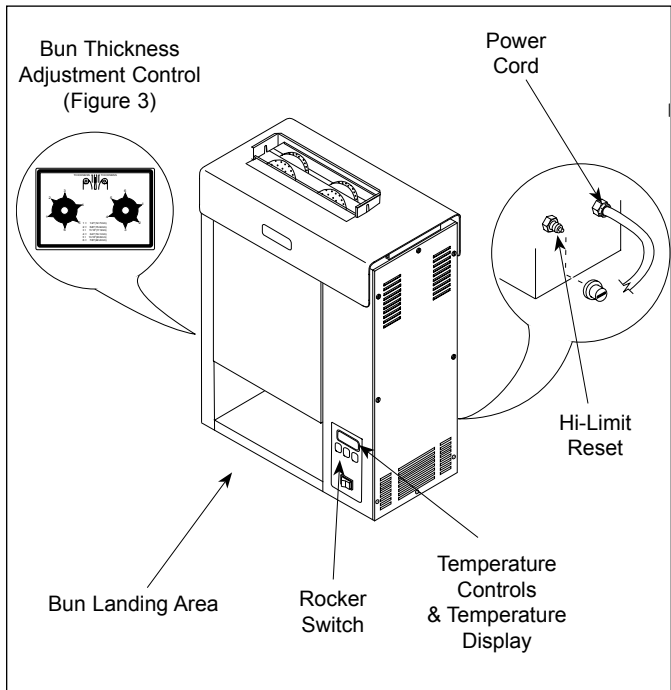

Figure 2. VCT-2000 Toaster
2. Turn the Rocker Switch on. (Figure 2). Allow the toaster to warm up for 30 minutes.
NOTE: The temperature display (Figure 2) will flash "LO" until the toaster reaches its preset operating temperature. When the toaster approaches the pre-set temperature of 600°F (315°C), "USE" appears in the temperature display and the unit is ready to toast buns. If "USE" does not appear in the window after a warm-up period of approximately 30 minutes, contact your Authorized Service Agency.
3. Drop Crowns and Heels into the slot (Figure 2). Cut sides of heel and crown must face each other.
4. Toasted buns will drop into the bun landing area (Figure 2) in approximately 10 seconds.
A Hi-Limit Control turns off electrical power to the heater and control circuits if the Platen overheats. To reset the control, allow sufficient time (10-15 minutes) for the unit to cool, then locate the Reset Button at the rear of the unit. Remove the black protective cap, press the Reset Button, and reinstall the protective cap (Figure 2).